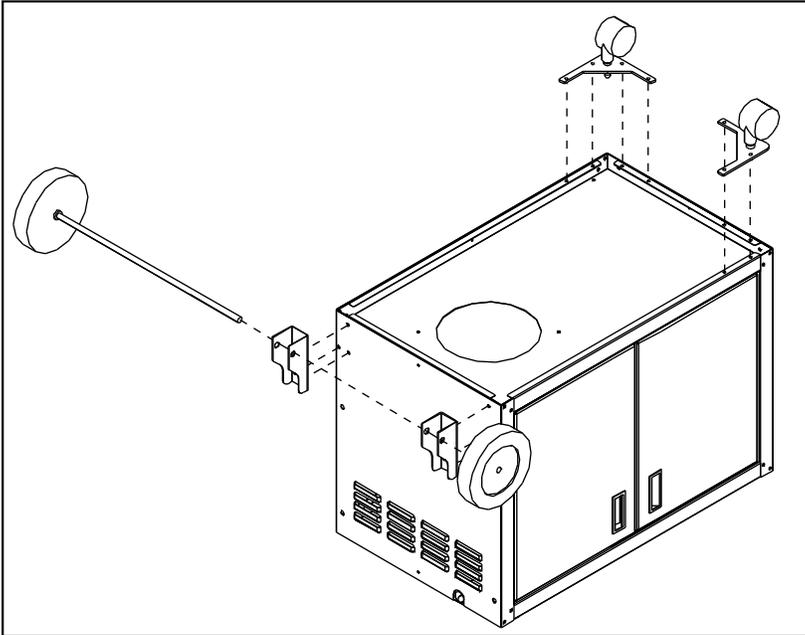

Figure 13
The casters must be installed on the bottom left side of the cart body. Each caster requires four (4) bolts, four (4) lock washers, and four (4) nuts. Put the casters in place (see Figure 13 & 14) and slide the bolts through the holes in the caster brackets into the holes in the bottom of the cart body. Open cabinet doors and place a lock washer and a nut onto each bolt. Using a 1/4" socket or nut driver and a 5/32" Allen key, tighten all the nuts and bolts.
The axle mounts must be installed on the right side of the cart body. Each axle mount requires three (3) bolts, three (3) lock washers, and three (3) nuts. Put the axle mounts in place with the holes for the axle closest to the bottom of the cart body (see Figure 13 & 15). Slide the bolts through the holes in the mount into the holes in the side of the cart body. Place a lock washer and a nut onto each bolt. Using a 1/4" socket or nut driver and a 5/32" Allen key tighten all the nuts and bolts.